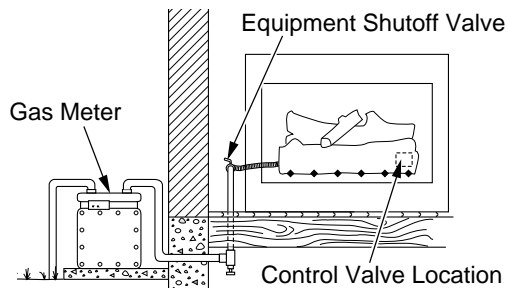

Figure 16 - Checking Gas Joints for Natural Gas
4. Check all joints from equipment shutoff valve to control valve (see Figure 16 or 17, page 13). Apply a noncorrosive leak detection fluid to gas joints. Bubbles forming show a leak.